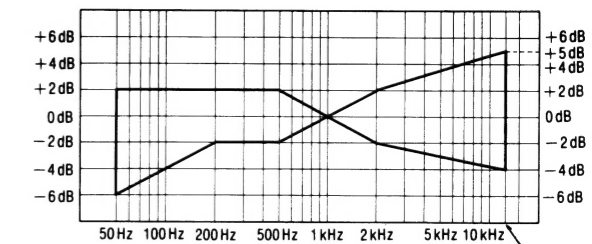

Fig. 8
6. After that increase the signal recorded on CrO_2 blank tape (QZZCRX) and metal blank tape (QZZCRZ) up to 12.5kHz and adjust in the same way as mentioned above and check that the frequency level is within the range shown in Fig. 8.